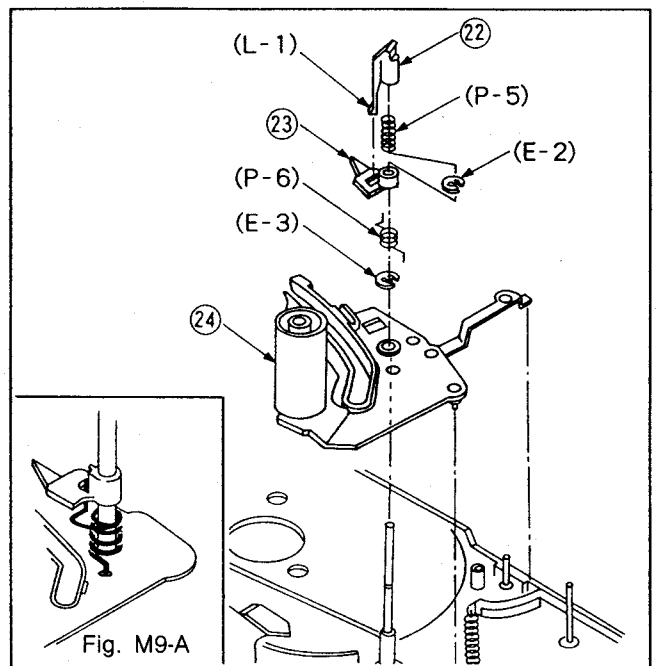

Fig. M9
19) Remove the tape opener guide. See Fig. M9
- 20) Reinstall the pinch arm assembly. Install the E-ring. See fig.M9 & A 5.
- 21) Reinstall T1 return arm spring and T1 return arm. Install the E-ring. See Fig.M9-A.